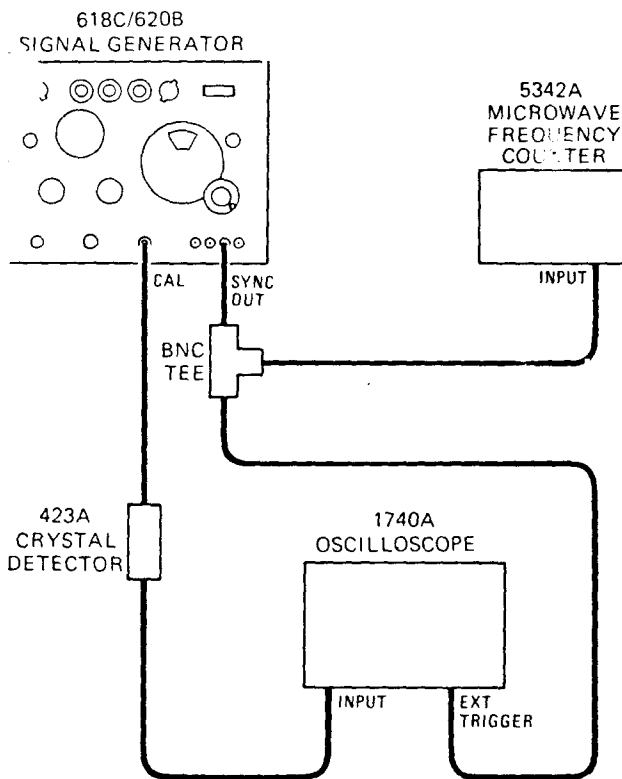

Figure 5-3. Setup for Testing Internal Pulse Modulation
a. Connect Signal Generator in test setup shown in Figure 5-3.